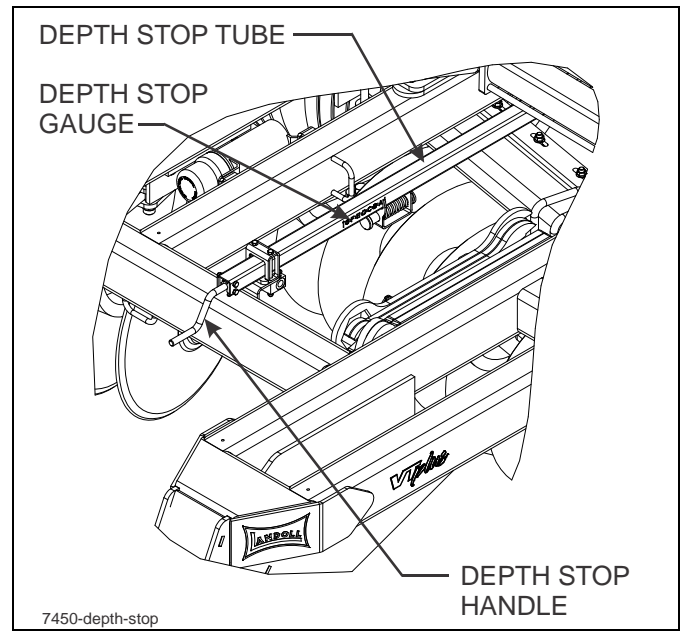

Figure 4-18: Depth Stop Adjustment (Manual)
1. Adjust the depth stop by turning the handle out (counter-clockwise) to increase operating depth (See **Figure 4-18.**) Turn the handle in (clockwise) to decrease operating depth. One turn will equal approximately 1/8" adjustment in depth.